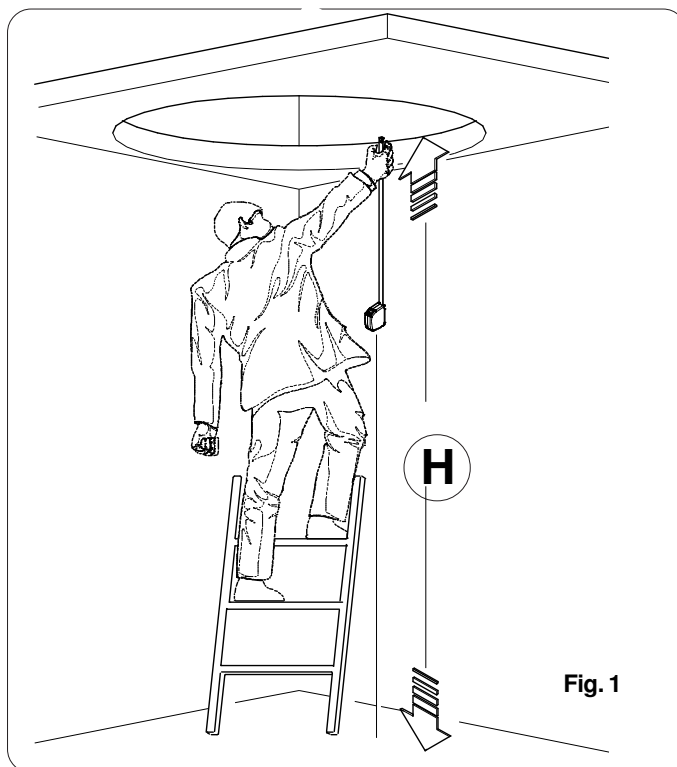

Fig. 1
- Measure the "H" height from the top ceiling to the bottom floor. In addition, measure the stairwell staircase. (Fig. 1)